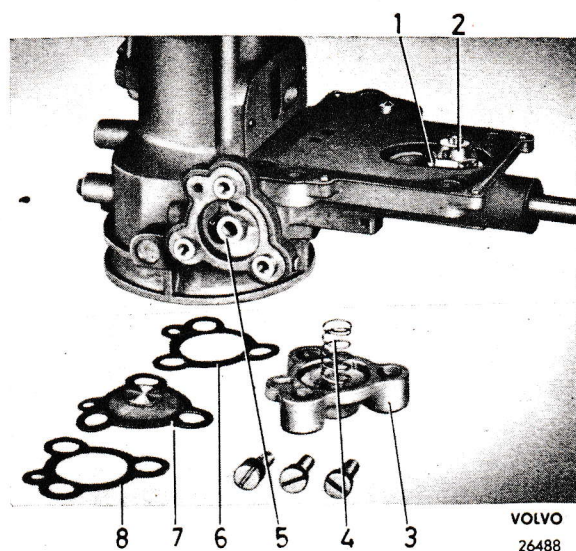

Fig. 72. Economiser valve
6. Remove the float valve and the economiser valve, Fig. 72. Screw out the idle fuel jet.
2. Check that the economiser valve disc (7, Fig. 72), is in good contact with its seat (5). The disc can be lapped in against the seat with fine grinding compound if necessary.